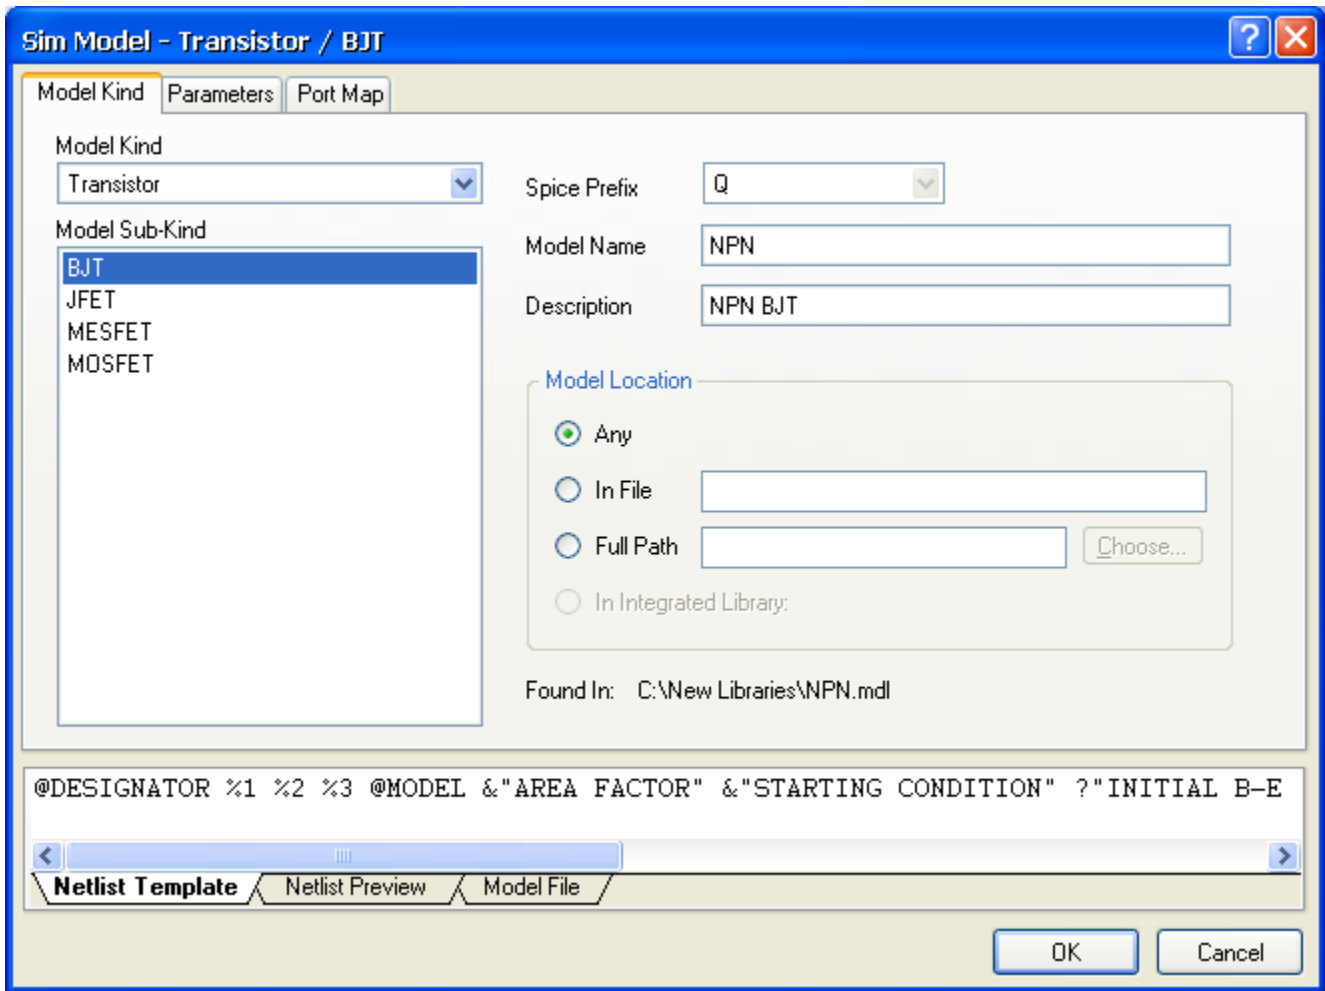

Figure 20. Configuring the NPN model.
6. Since the NPN is a transistor, select **Transistor** from the **Model Kind** list. The dialog becomes the _Sim Model - Transistor/BJT dialog (Figure 20).